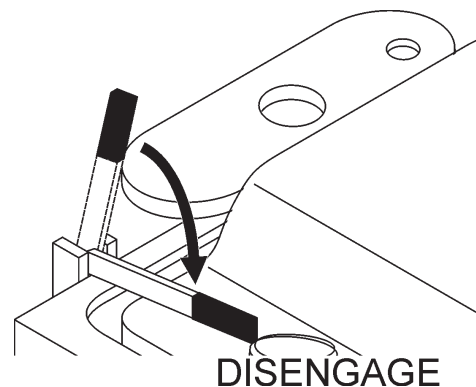

Figure 53. Transmission Engage/Disengage Lever (Disengage Position)
1. Place the **transmission engage/disengage lever** in the **DISENGAGE** position (Figure 53).